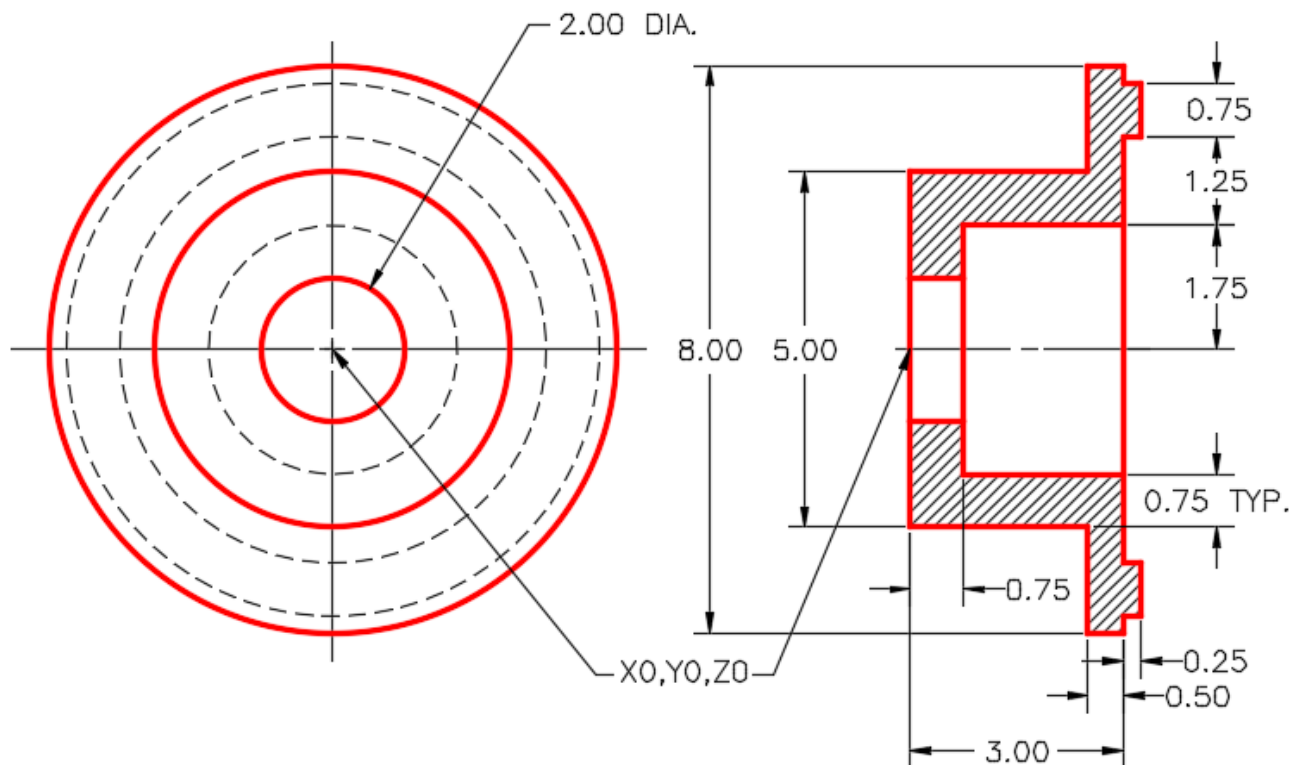

Figure Step 2
Step 2 Save and name the drawing: AutoCAD 3D Workalong 13-2. (Figure Step 2)